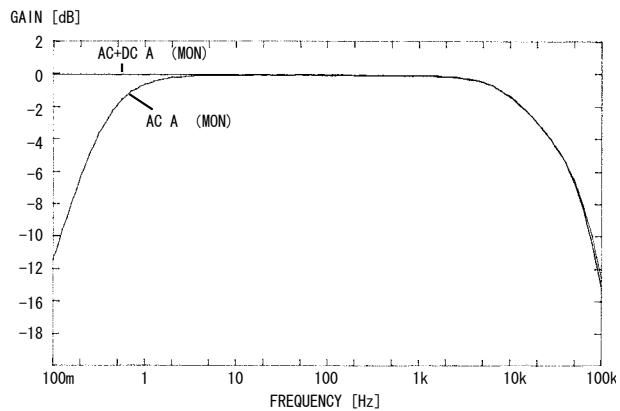

Fig. 1 Frequency Characteristics of Current Output
- During a f.s. input, the measurement response speed is about 250 ms during rise (0% to 90%) and about 500 ms (100% to 10%) during fall (2.2.5, Figs. 1 and 2).